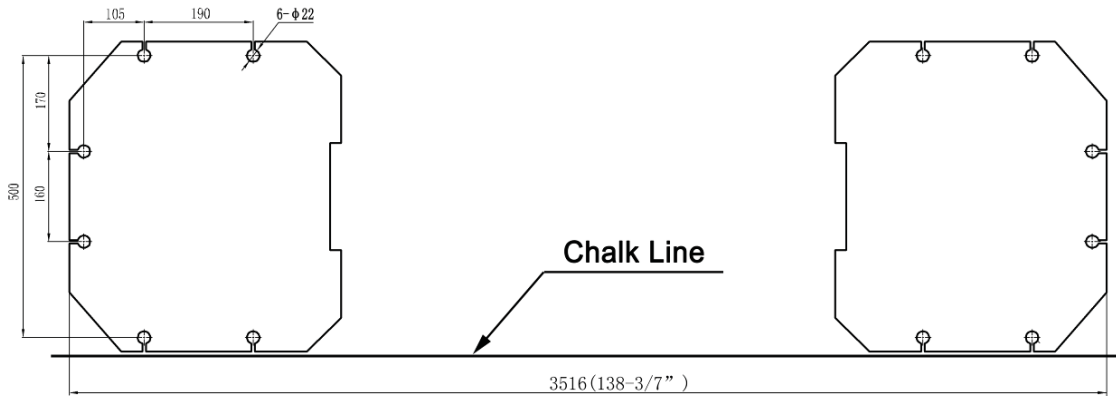

Fig. 4
B. Use a carpenter's chalk line to establish installation layout of baseplate (See Fig. 4) .